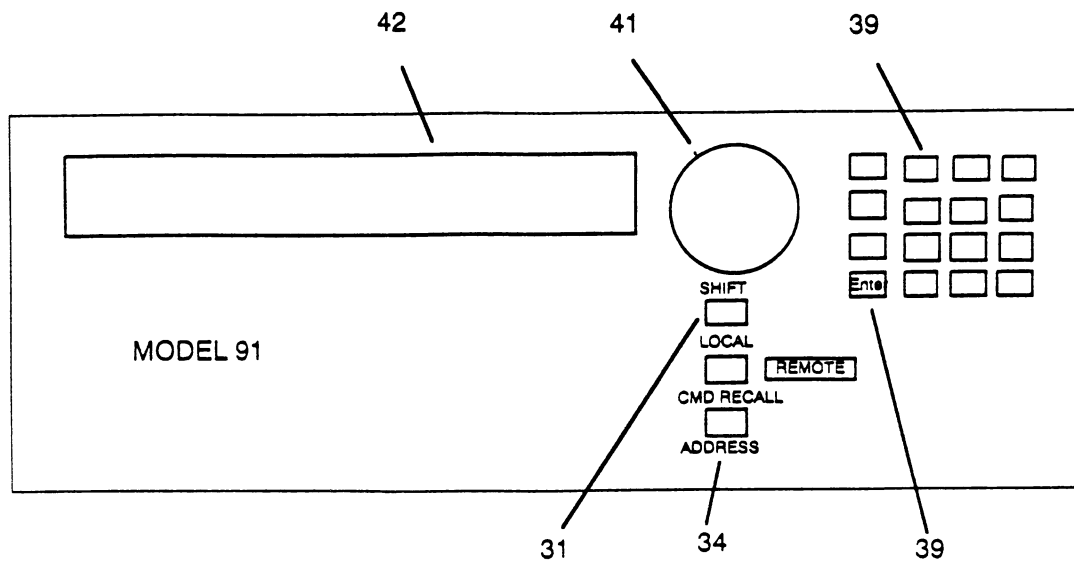

Figure 3-5. GPIB Operation Control Setup
2. Set the Model 91 GPIB address to match the address used by the controller; see figure 3-5.